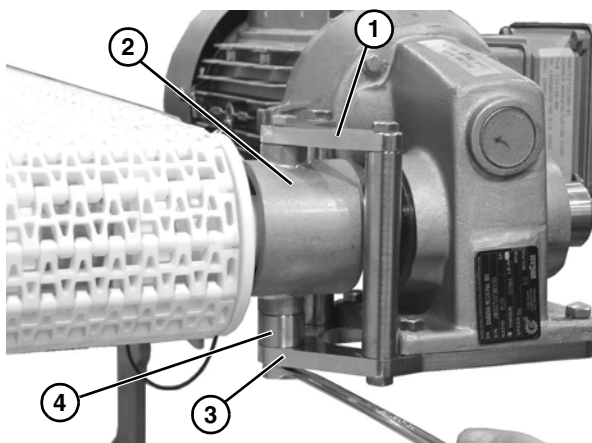

Figure 6
3. Attach the upper gearhead mounting bar (**Figure 6, item 1**) to the motor mounting bracket (**Figure 6, item 2**).
4. Attach the lower gearhead mounting bar (**Figure 6, item 3**) to the motor mounting bracket (**Figure 6, item 2**). Use Spacer (**Figure 6, item 4**)